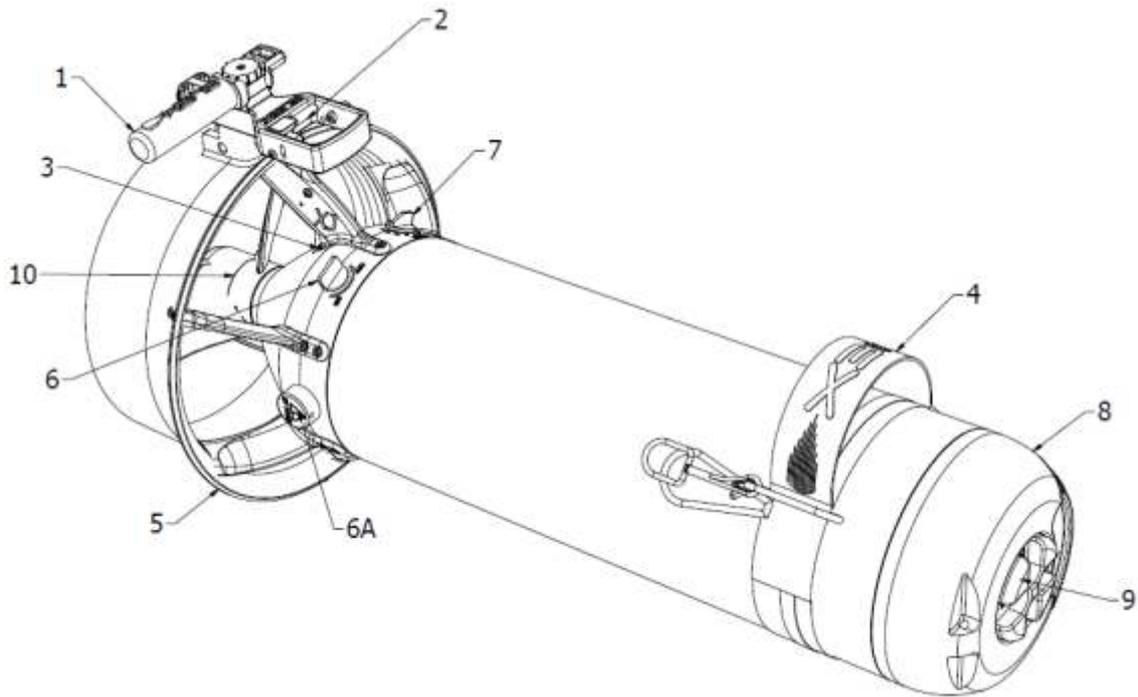

Fig.1
The underwater SCOOTER (VR- X 71419 and VR- T 71420) consists of a perfectly hermetic hollow body, with a hydrodynamic shape, (fig. 1), inside which the electric motor, the rechargeable batteries and the speed reducer necessary to move a propeller that provides a propulsive thrust.
On the front there is a handle (4 - Fig.1) which is used for gripping and lifting the SCOOTER and the nosecone (8) whose opening gives access to the battery compartment. The opening of the nosecone is possible by turning the closing handwheel (9) counterclockwise.
- Turn the main switch to the ON position (6 - Fig.1);
- Hold the SCOOTER (by the handle (1));
- Press the trigger (2), the SCOOTER starts to move;
Turn the front fastening knob (9) counter-clockwise. When rotating the knob the nosecone (8) (see fig. 1) starts to lift. Continue rotating the knob until the nosecone detaches from the body.